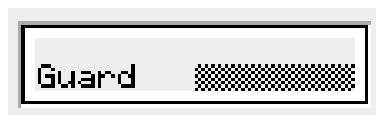

Figure 3-84 Security Application Begin Display
75. The data collector shows the application's beginning display (Figure 3-84).